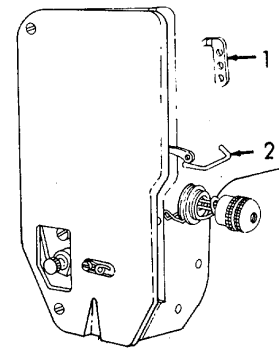

Figure 6-86. Thread Guides, Removal.
(4) Refer to Figure 6-86. Using lock pliers, pull outward and turn to remove press-fit upper needle thread guide (1).
(5) Using lock pliers, pull outward and turn to remove press-fit lower needle thread guide (2).